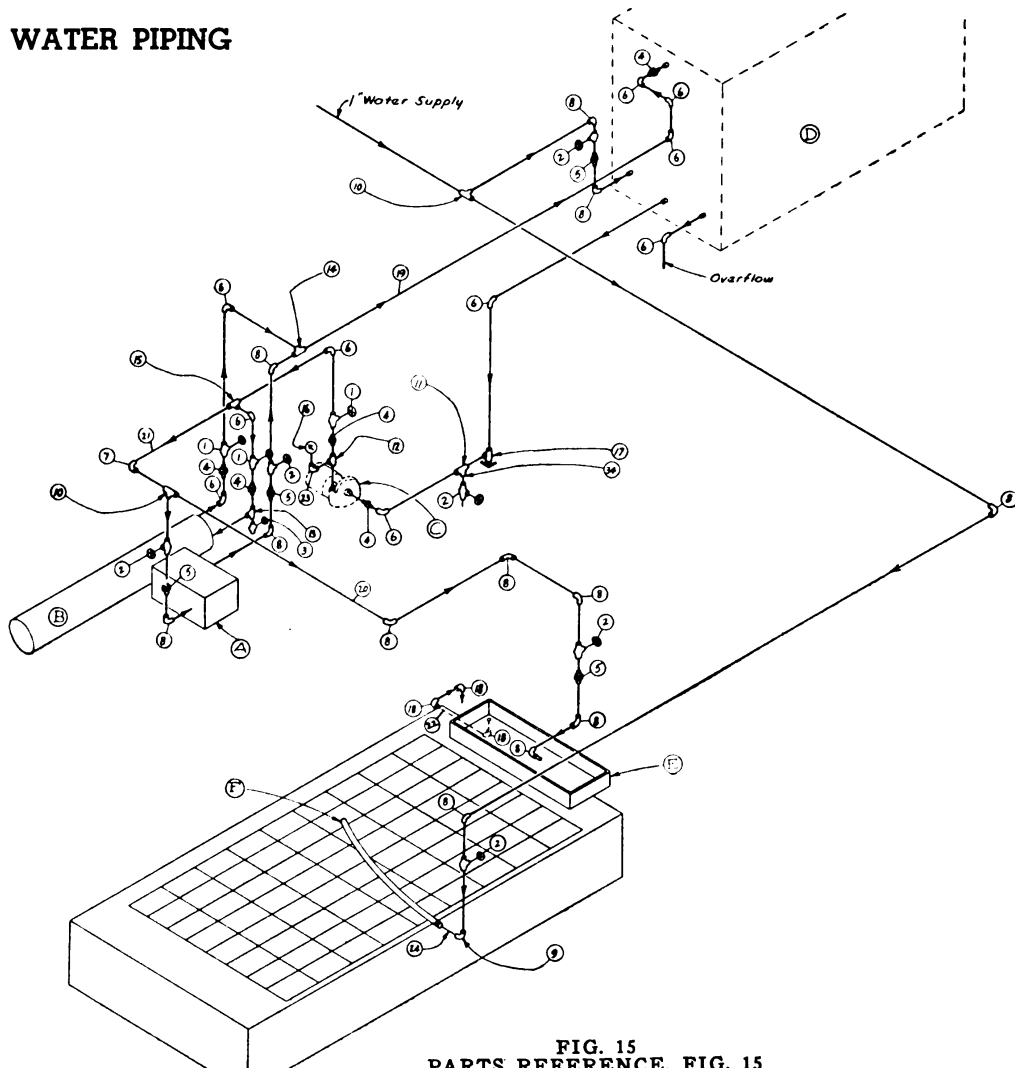

FIG. 15
PARTS REFERENCE, FIG. 15
- EQUIPMENT REFERENCE, FIG. 15